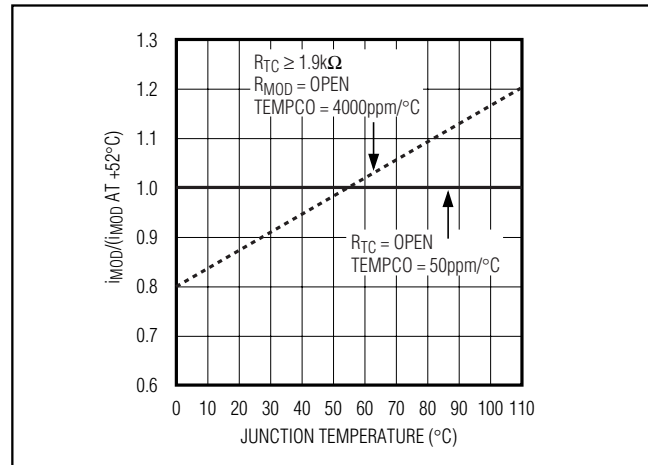

Figure 6. Modulation Current vs. Temperature for Maximum and Minimum Temperature Coefficient
The amplitude of the modulation current is set with resistors at the MODSET and temperature coefficient (TC) pins. The resistor at MODSET (R_{MOD}) programs the temperature-stable portion of the modulation current, and the resistor at TC (R_{TC}) programs the temperature-increasing portion of the modulation current. Figure 6 shows modulation current as a function of temperature for two extremes: R_{TC} is open (the modulation current has zero temperature coefficient), and R_{MOD} is open (the modulation temperature coefficient is $4000\text{ppm}/^\circ\text{C}$). Intermediate temperature coefficient values of the modulation current can be obtained as described in the *Design Procedure* section. Table 2 is the R_{TC} and R_{MOD} selection table.